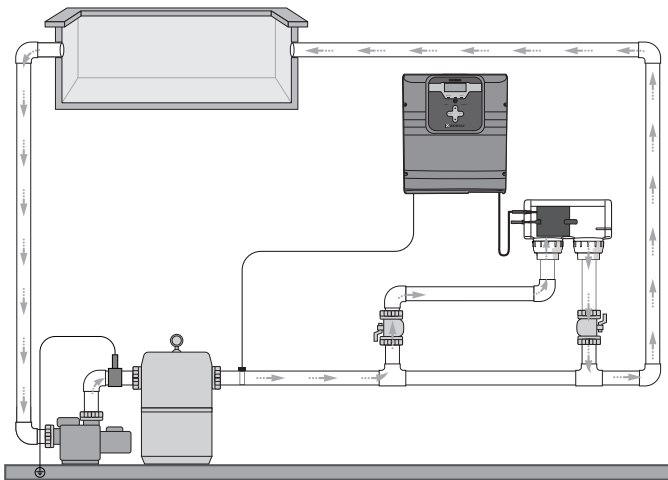

Figure 3. Plumbing Cell Only
The cell must be plumbed in a position that is accessible for maintenance and within 2 meters of the controller. The cell should be the last piece of equipment in the circulation system. The cell must be installed horizontally, level and with correct flow orientation, see Figure 3.
1. If you intend to plumb the cell on a bypass, the bypass must be equipped with Isolation valves, see Figure 3.
- The cell must be the last piece of equipment on the return line, see Figure 3.
- It is recommended in all installations that the cell is installed on a bypass equipped with isolation valves, see Figure 3.
- In order to avoid load loss, installing the cell on a bypass is **MANDATORY** if system flow rated exceeds 300 Lpm, see Figure 3.